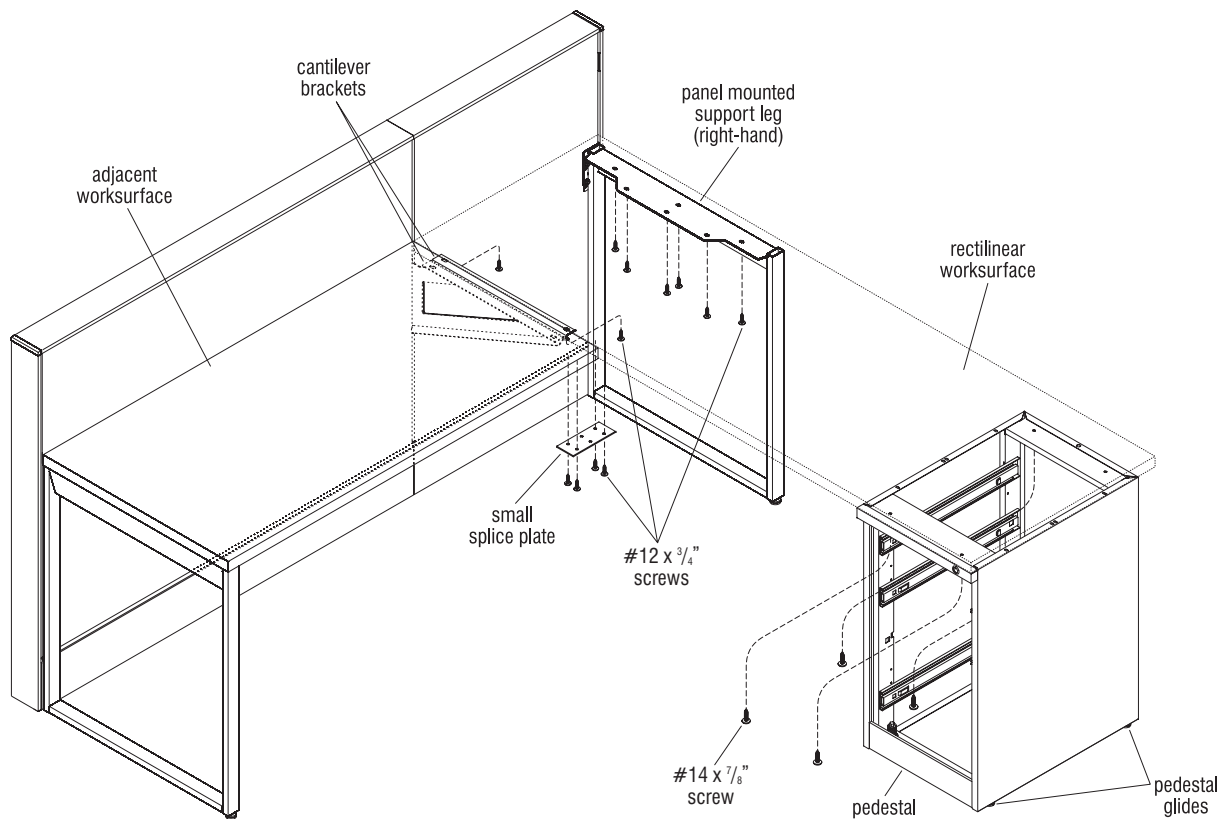

Figure 28
1. Carefully place worksurface onto installed cantilever bracket, panel-mounted support leg and pedestal then align worksurface to adjacent worksurface as illustrated. Adjust glides under the pedestal to level the rectilinear worksurface. Using the cantilever bracket and support leg mounting holes as a template, pre-drill required mounting holes to $\frac{1}{8}$ " diameter and $\frac{1}{2}$ " deep into the underside of the peninsula surface. Take care to not drill too deep (Figure 28).
2. Using $\#12 \times \frac{3}{4}$ " screws provided, secure the bracket and support leg to the rectilinear worksurface. Take care not to over tighten screws (Figure 28).
the front and side of the pedestal is flush with the edges of the worksurface as illustrated (Figure 28).
4. Once aligned, secure pedestal to underside of worksurface using four $\#14 \times \frac{7}{8}$ " screws through the pre-drilled holes on each corner of the pedestal (Figure 28).
Deep Worksurface Connections with 74P Edge™ instructions on page 5 for splice plate installation (Figure 28).